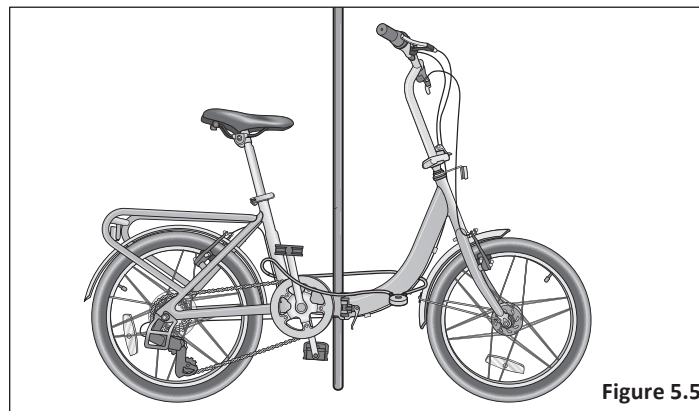

Figure 5.5
- Always lock your bicycle to an immovable object if it is left unattended. Keep in mind that individual parts of a bicycle may be stolen. Most commonly, if you lock just a wheel or just the frame, other parts may be removed from the bicycle. Although it is impossible to lock all the parts, it is suggested to lock the major components if possible. **Figure 5.5**